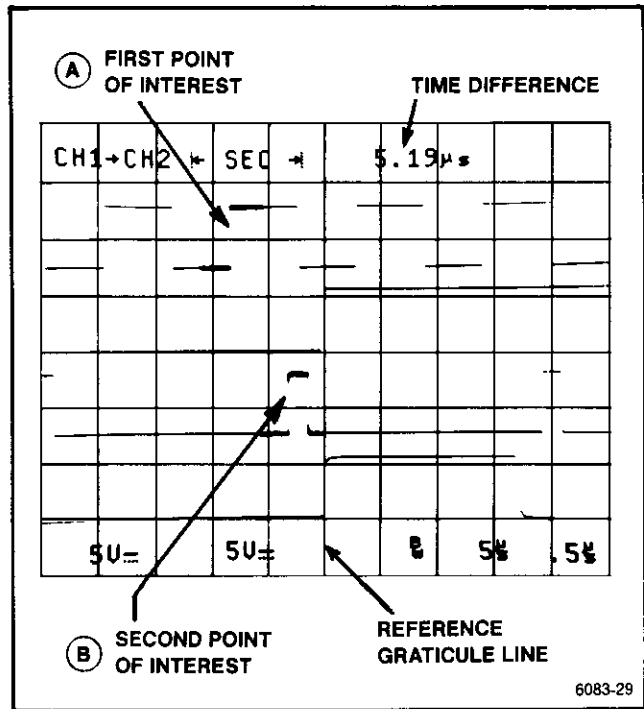

Figure 6-15. Time difference using Δ TIME with two delays.
6. Using the center horizontal graticule line as a reference point, set the reference delay to align the point of interest to be measured (point A in Figure 6-15) from to that reference point with the \bar{L} - or DELAY control. Set the Δ delay to align the second point of interest, displayed in
the second B Sweep (point B in Figure 6-15), to the reference point using the Δ or ∇ control. The measured difference between the two delays is displayed at the top of the screen.